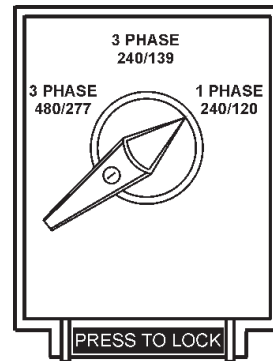

Figure 29. Voltage Selector Switch 240/120V Single-Phase Position
- Place the voltage selector switch in the 1Ø 240/120 position as shown in Figure 29.